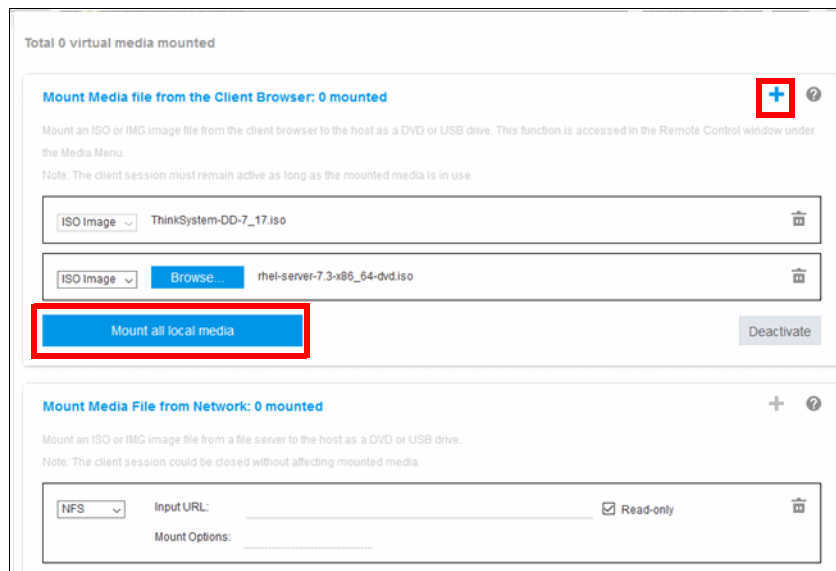

Figure 6-52 Mount OS ISO and driver ISO
5. Click **Mount all local media** to mount the OS and drivers as shown in Figure 6-52.